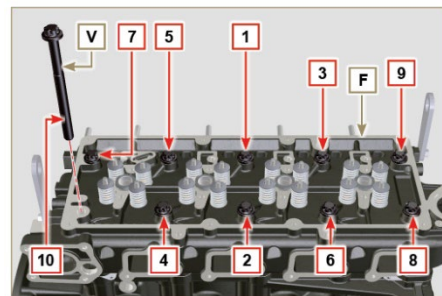

Fig 9.50
- For engine **KDI 2504 M**: 10 screws **Torx M12x1,25** (**Fig. 9.50**).